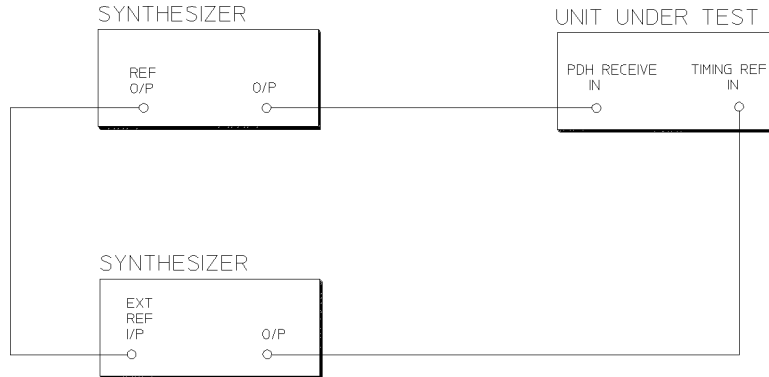

Figure 3-53
13. Connect up the equipment as shown in Figure 3-53.